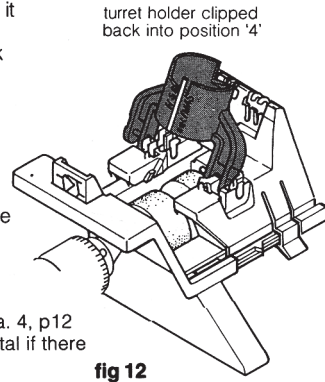

fig 12
- To sharpen the other two edges, remove the **turret holder** and refit it into the second slot marked '4', **furthest** away from you (fig 12). Repeat the sharpening procedure from para 4, p12, but make **only 1 or 2 passes** of the bit across the wheel since the edges to be sharpened are narrower. Turn the turret through 180° to sharpen the other edge.